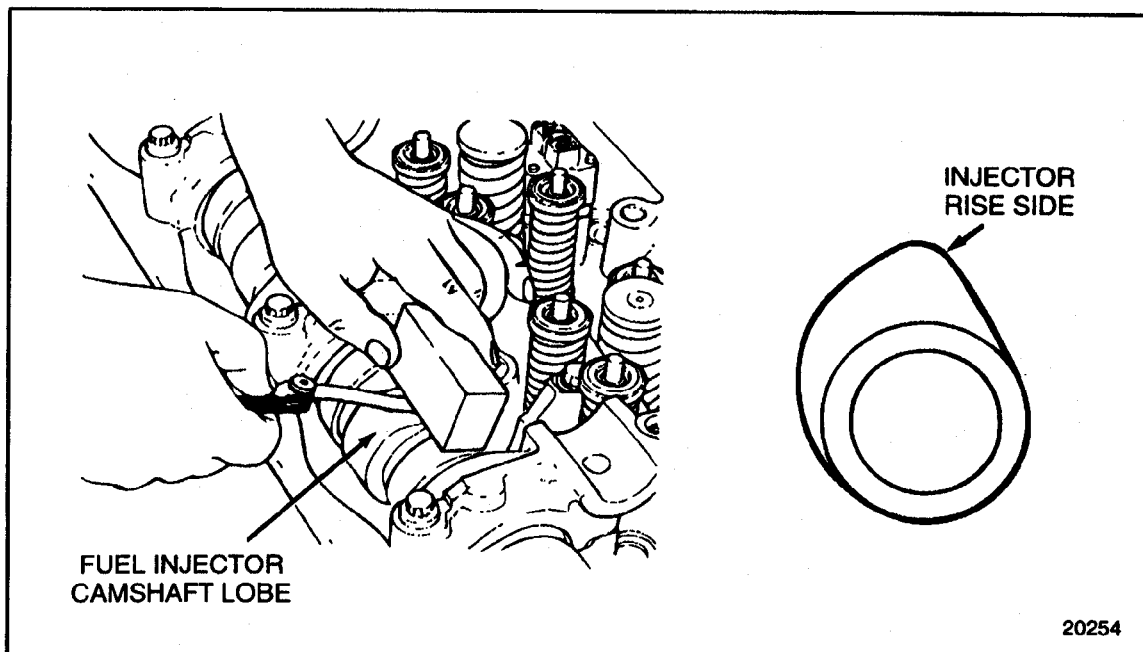

Figure 1-344 Checking Camshaft Lobe Wear
- [a] Using a feeler gage, 0.038-0.254 mm (0.0015 -0.010 in.) and a piece of square, hard material 3 x 10 x 25 mm (1/8 in. x 3/8 in. x 1 in.), measure the flat on the injector rise side of the camshaft lobes and nose of valve lobes. See Figure 1-344.